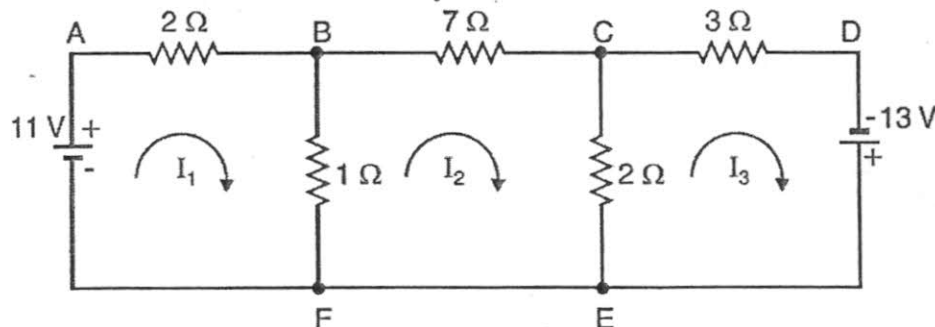

Fig. 1(a)
1. a) In the network shown in Fig. 1(a), find the magnitude and direction of current in the various branches by mesh current method.